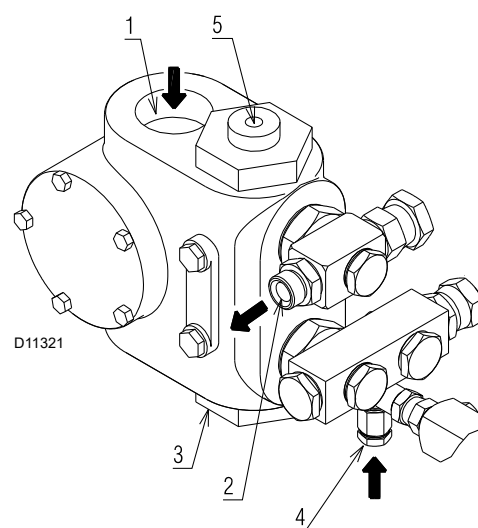

Fig. 21
- In order for self-priming to take place, the screw 4) on the pump (Fig. 21) must be loosened to bleed off the air contained in the suction line.
Key (Fig. 21)
If the pump has been drained, fill it with fuel through the opening on the vacuumeter 3)(Fig. 21) prior to starting; otherwise, the pump will seize.